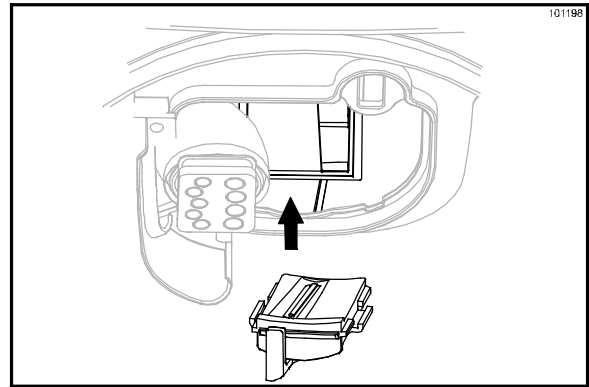

Figure 188
12. Install a new blade with guard by inserting the blade into the opening and pushing it back into place. (See Figure 188.)